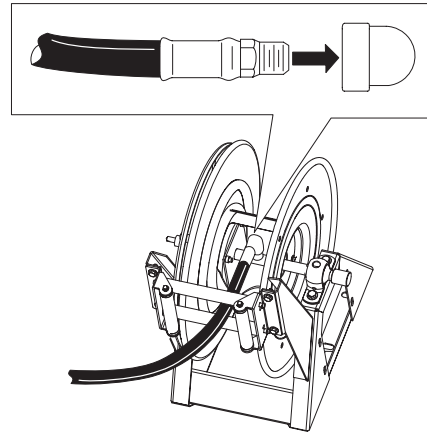

Figure 16
1. Wrap Teflon tape around the threads of the hose fitting on the long hose and install the fitting into the connecting tube on the reel (Fig. 16).